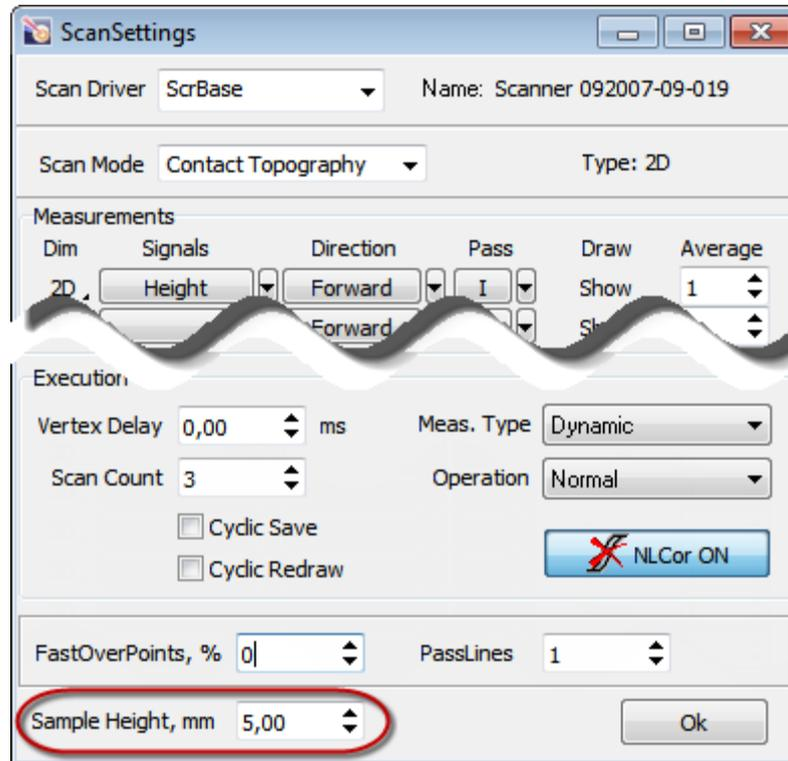

Fig. 8-13. Setting the sample height
2. In the **SampleHeight** input field (Fig. 8-13), enter the desired composite sample height.